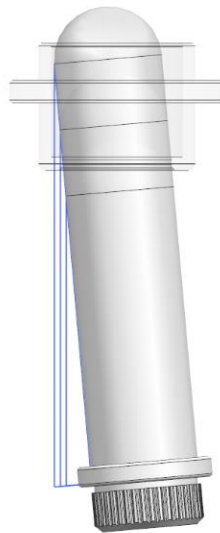

Figure 7.1.1
- 7.1.1 Rigid and non-rigid systems must be able to maintain a maximum 1.5 degrees mating angle. Rigid systems degree of mate may be less due to pin length. Figure 7.1.1 shows longer pins with the same angle misalignment creating larger True Position offsets at the tip.